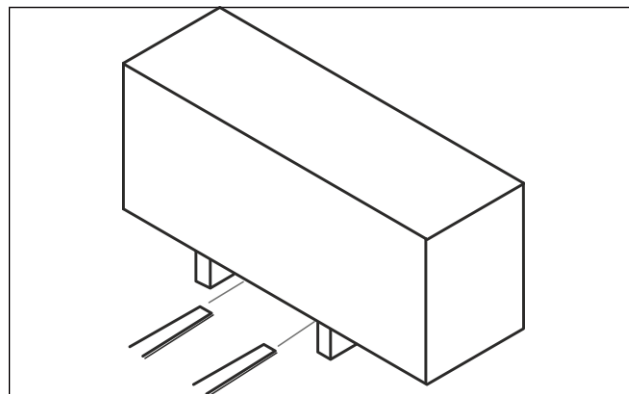

Fig. 7 Transport by forklift
- Move the forks of the forklift between the crosspieces of the package in accordance with Fig. 7.